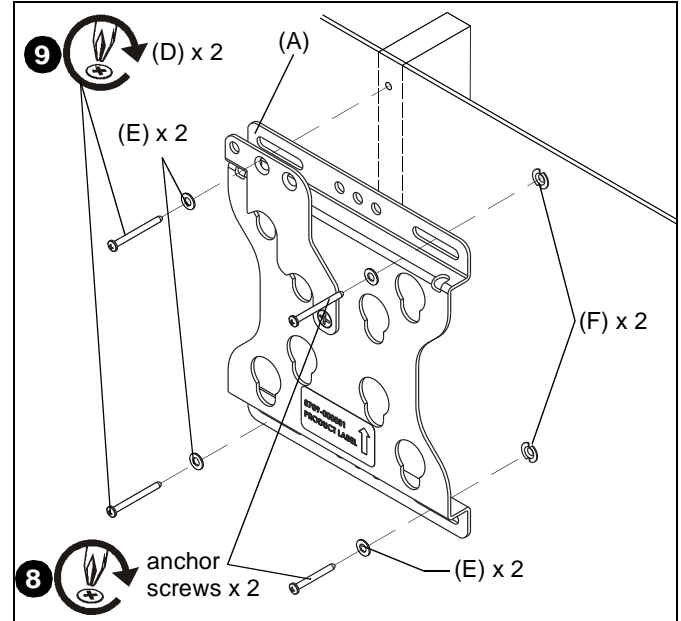

Figure 5
- Insert anchor screws through two #10 washers (E), FSR1U/FSR100 assembly (A) and install into collapsed anchors (F). (See Figure 5)
- Install two #10 x 2 1/2" Phillips tapping screws (D) through two #10 washers (E), FSR1U/FSR100 assembly (A) and into wood stud. (See Figure 5)